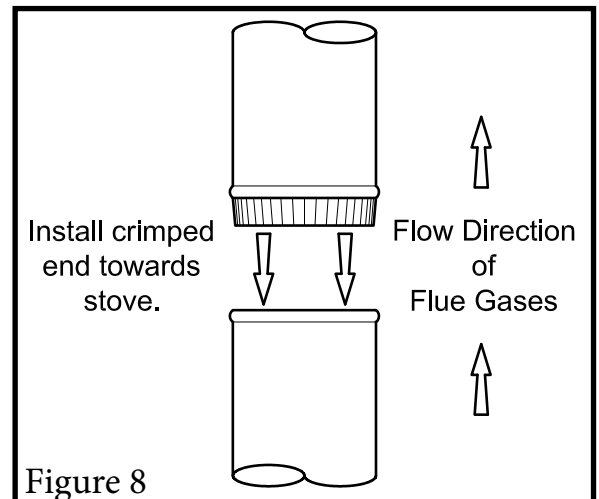

Figure 8
1. The crimped end of the chimney connector fits inside the furnace flue collar. Install additional chimney connectors and elbow with the **CRIMPED END TOWARD THE FURNACE**. This will allow any condensation in the flue to run back into the furnace. Use 6" dia. steel pipe and elbows for connection to chimney. Never use less than 24 gauge and although blue steel is satisfactory, high temp painted black is much more desirable. (See Figure 8)
Figure 8 shows how to connect the chimney connector of a heater to a masonry chimney through a combustable wall.
Additional requirements pertaining to Figure 8 and the above wall pass-through systems: